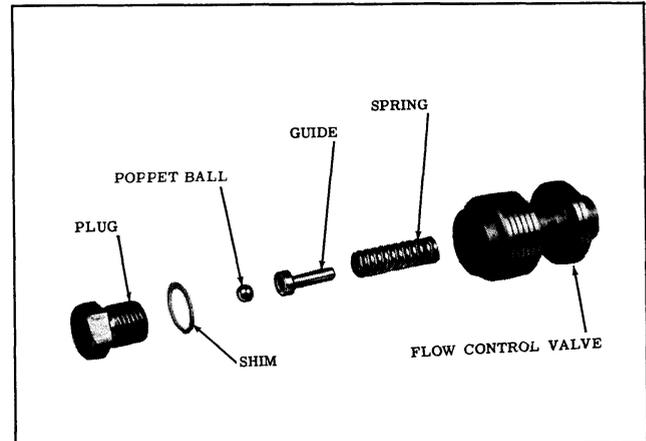

Fig. 5-78 Flow Control and Relief Valve
13. The flow control and relief valve may be disassembled for cleaning. When disassembling valve, carefully remove plug to prevent loss of poppet ball or shims. (See Fig. 5-78)
1. Assemble flow control and relief valve as shown in Fig. 5-78. Use the same number of shims removed, as altering the shim thickness will change relief pressure. Tighten the plug to approximately 4 ft. lbs.